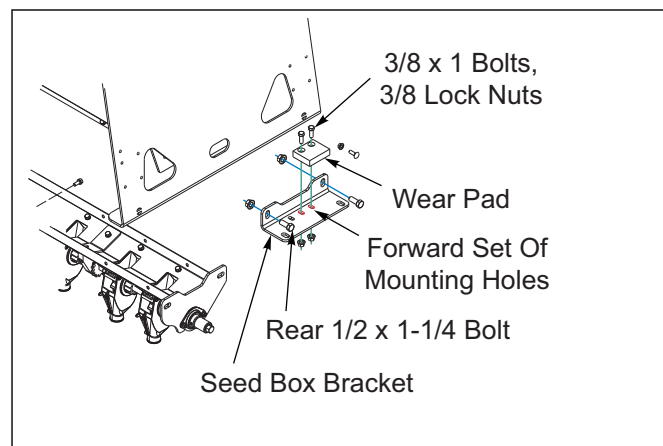

Figure 3-2: Removal of Rear Screw from Existing Seed Box Bracket
8. Just in front of the small seed bearing assembly, remove the rear 1/2-13 x 1-1/4 hex head cap screw from the existing seed box bracket **See Figure 3-2**.